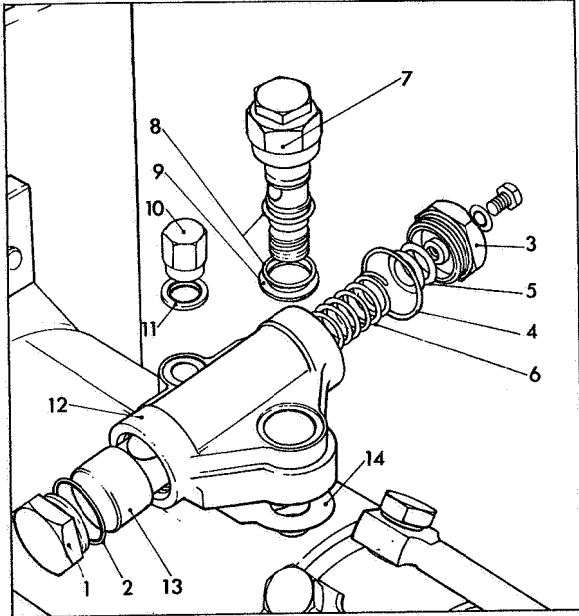

Fig 4 Dismantling auto advance device
Invert fixture in vice as shown in Fig 4. Remove piston plug (1), piston plug seal (2), piston spring cap (3), seal (4), shim washers (5) and outer piston spring (6).